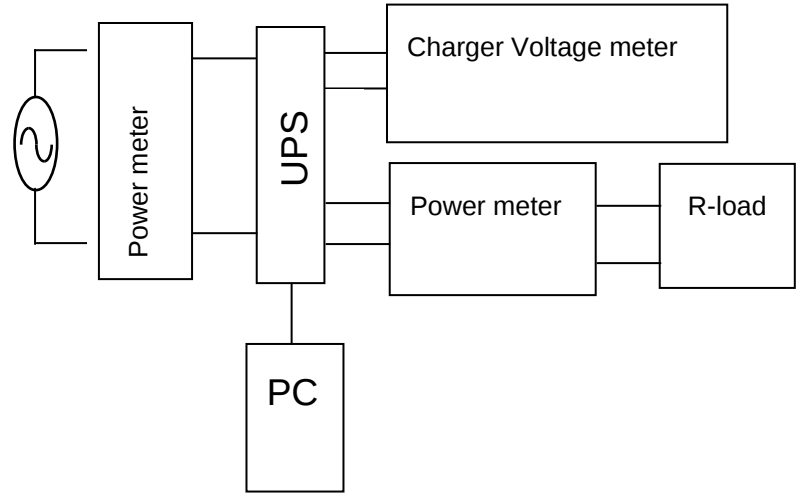

Fig 4.4-1
4.5.2.1 Connect the UPS as figure 4.4-1.